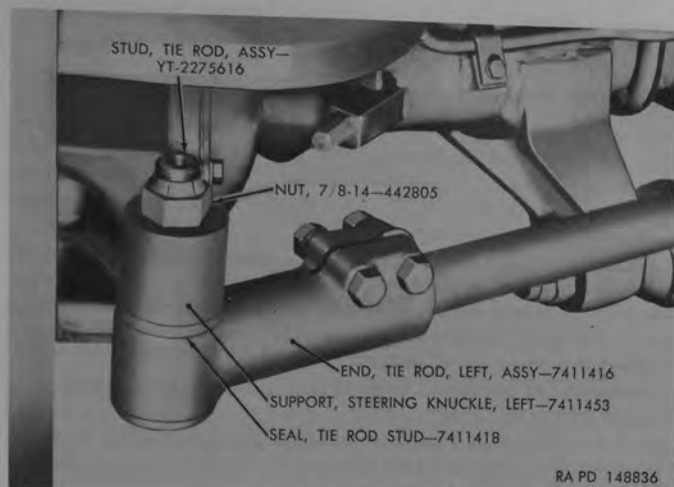

Figure 130. Steering tie rod—Rod installed.
b. *Tie Rod Installation.*—Be sure seal is placed over tapered stud, then insert tie rod end studs into tapered holes of arms on steering knuckle support. Install nut on each tie rod end stud and tighten to torque of 175 to 200 pound-feet (fig. 130).